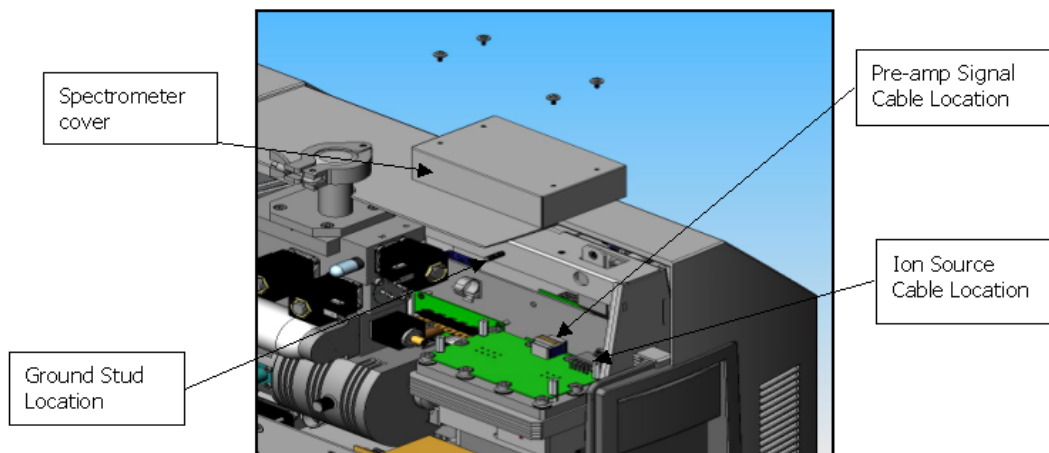

Figure 3: Cable Locations
6. Disconnect the spectrometer ground cable, the preamp signal cable and the ion source cable from the spectrometer (Figure 3: Cable Locations).